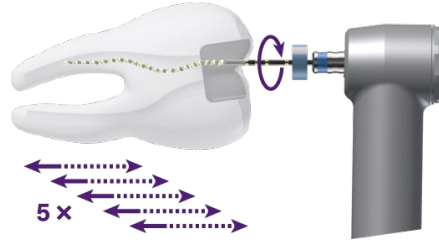

Figure 2
- 8) Use very long gentle strokes to progress down to working length (WL) (Fig. 2). Apply very light apical pressure and allow the file to progress passively along the canal. After 5 long strokes, remove and clean the file. Repeat until the working length is reached. Usually, it should be reached in one or two attempts (each attempt is 5 long strokes). Clean the flutes from any debris prior to re-insertion. Never force the file and always keep it spinning and moving while in the canal. Always keep the canal filled with irrigant while using the files to avoid debris accumulation in the canal space.